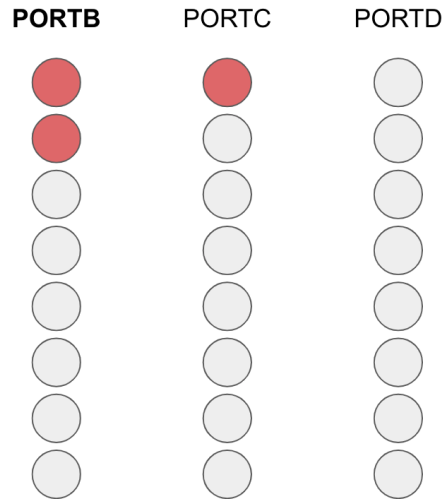

Figure 5: PORTB configured to level point 2.
- RA4 is pressed and released again to configure the level point as 2 in PORTB. After the configuration, the LEDs are shown in Figure 5. Note that blinking should continue as long as PORTB is selected, meaning that even the value is updated, LEDs should continue to blink in 500ms intervals.